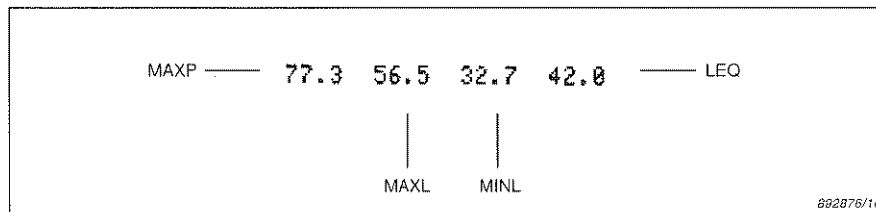

Fig. 3.6. Print-out in Format Number 5
- 5 : The MAXP, MAXL, MINL and L_{eq} results (see Fig. 3.6).